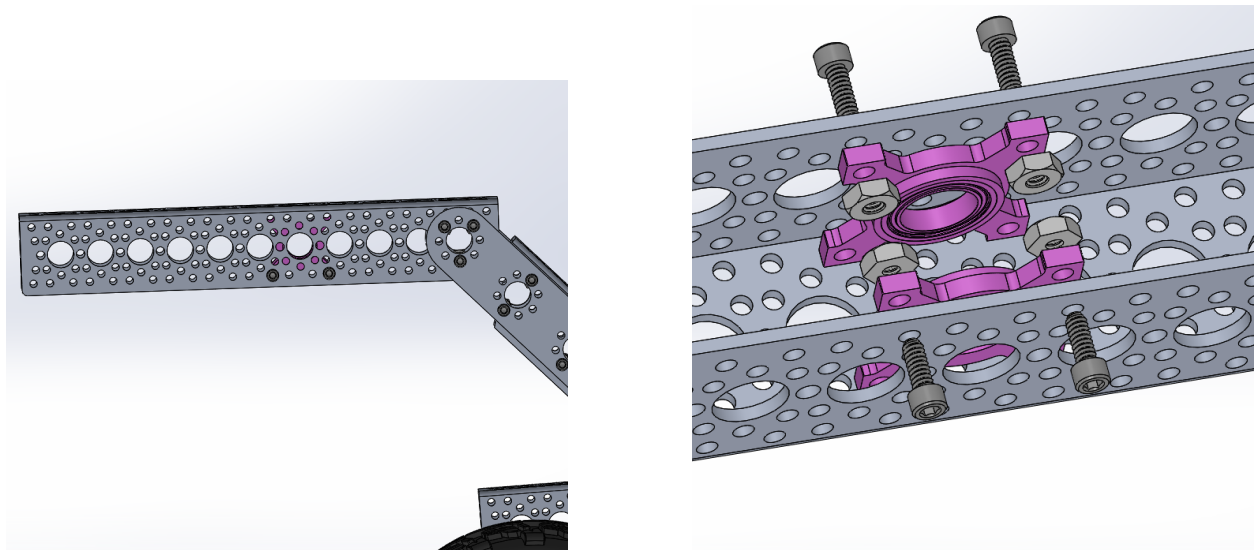

Figure 10: Pillow bearing block attachment
8. **Attach Bearing Blocks:** Attach two Pillow Bearing Blocks **S11** using screws **B2** and hex nuts **B11** as shown in Figure 10. The bearing blocks should be aligned with the 5th large hole back from the front of the 9-inch U channel.